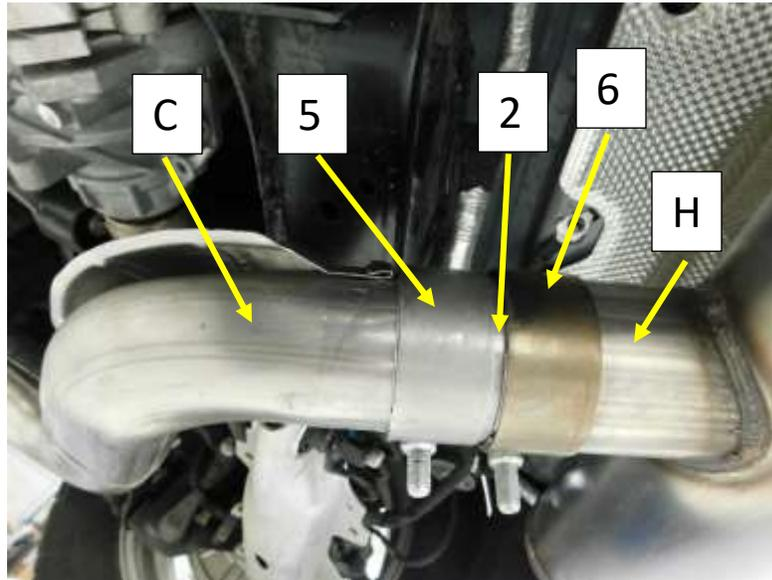

Figure 8
2. Install adapter pipe “A” (2) (no step down) into the muffler inlet pipe (H). **Fig.8**
3. Install the provided 63mm band clamp (5) over the OEM exhaust pipe (C) with the bolt to the right and the nut facing down. **Fig.8**
4. Align the muffler adapter pipe (2) to the OEM Exhaust pipe and slide the adapter pipe down and over the OEM exhaust pipe and into the band clamp (5). Slide the adapter pipe down until it touches the rolled heatshield edge. **Fig.8**
5. Install the band clamp over the Z-Notched end of the adapter pipe and tighten as close to the end of the pipe as possible. **Fig. 8**